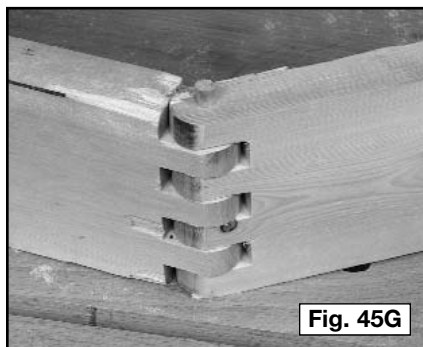

Fig. 45G
- Step 6** - Glue wooden plugs in the workpiece to hold the pins in place.(Fig. 45G).